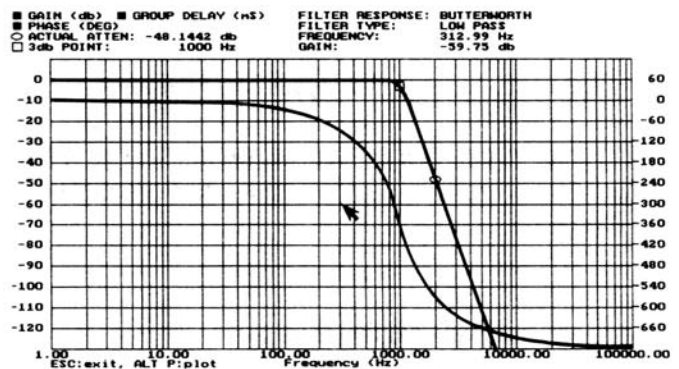

Figure 3.1A. Butterworth Lowpass Filter Response
to begin graphing immediately. In a few seconds or a few minutes, depending on the type of computer system you're using, you should see a graph very much like the one in Figure 3.1A. Amplitude (in dB's) is indicated on the left side of the graph and phase (in degrees) is indicated on the right side. (If you have your graph parameters set differently than FilterCAD's defaults, your graph may show less of the frequency and amplitude range than the figure. If you don't see a graph substantially like the one in Figure 3.1A, you may need to adjust the graph's ranges. Exit the graph screen, go to the MAIN MENU, and select 6, CONFIGURE FilterCAD. Next, select item 6, "Configure DISPLAY Parameters," followed by item 2, "Change GRAPH Window.")